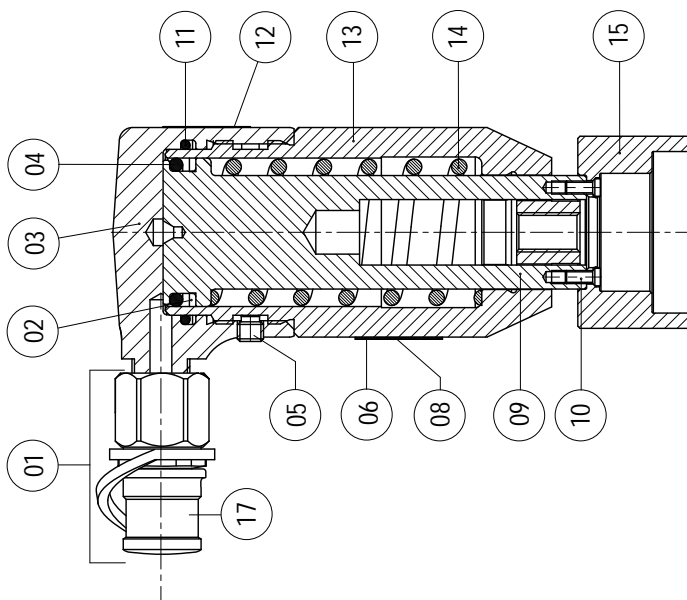

FIG. 11 LONGITUDINAL SECTION
6. PARTS LIST (TOOL HEAD) (Ref. to Fig. 11)